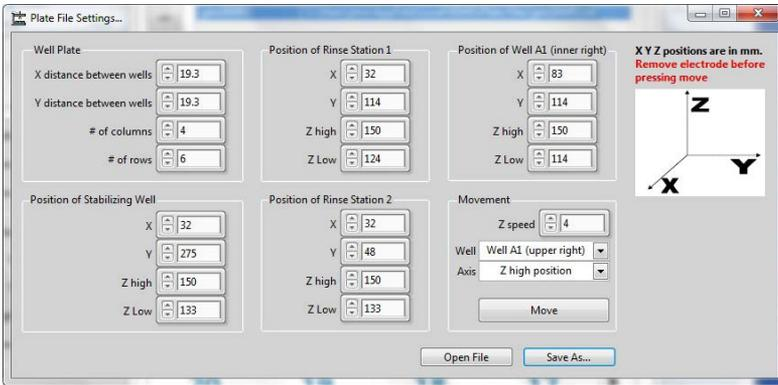

Fig. 26 — REMS Plate File Settings window lets you edit plate configuration files.
**Stabilize**: When this button is pressed the electrode moves to the user-defined location for the stabilizing well as defined by the settings in the *Plate File Settings Window* (Fig. 26 on page 17). The *Plate File Settings Window* is accessed from the *Plate Files* tab. A resistance measurement is displayed each time this button is pressed.
Highlight a file in the *Plate Files List* and click the  button to edit the file. The *Plate File Settings* window appears (Fig. 26). You have the option of saving the file under a new name, if you want to create a new plate configuration file. This screen provides functions for creating, editing and saving plate configuration files. It also permits manual control of the robot for testing purposes. To setup parameters for a new plate, see “Setting Position Parameters for a New Plate” on page 21.